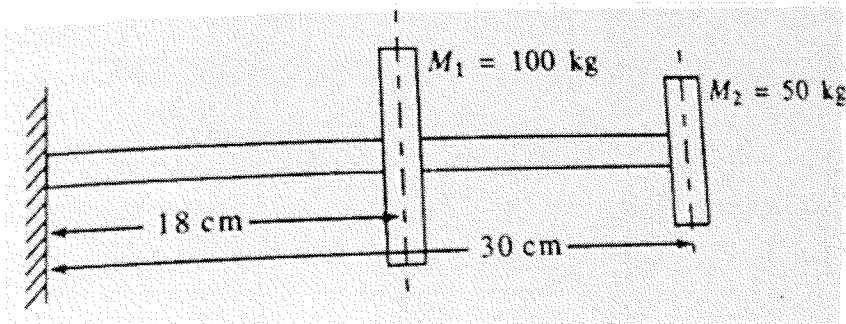

Figure 2
5. Find the lower natural frequency for the system shown in Figure 2. below by Dunkerley's method.